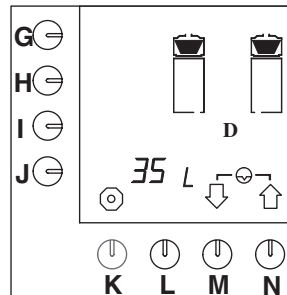

Fig. 40 Resetting day counter coffee-making system
- Press selection key (M.)↓ until fig.40 appears on the display.